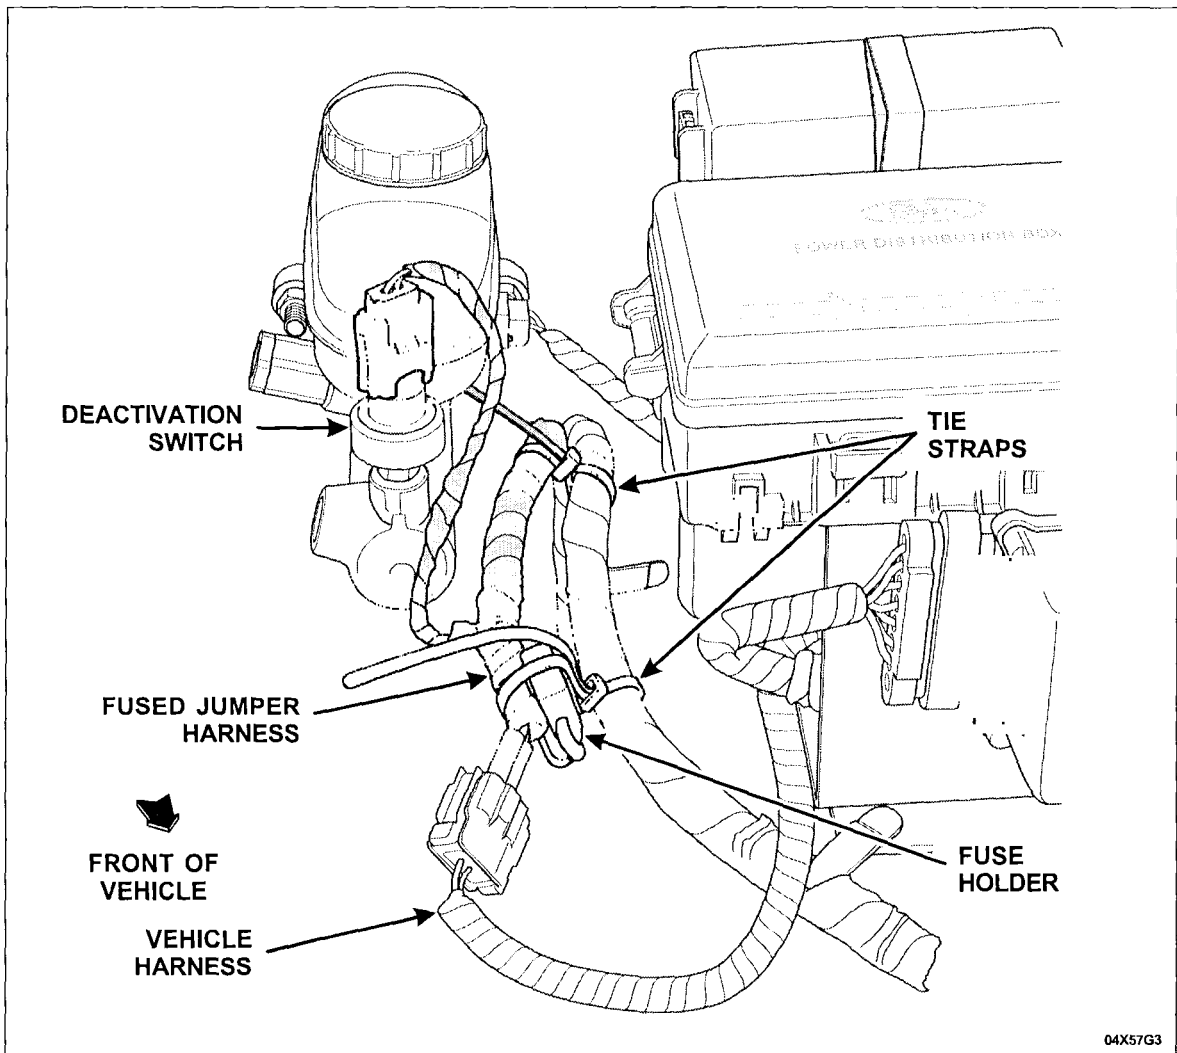

FIGURE 4
- c) Secure the jumper to the existing harness with tie straps, making sure the fuse holder is positioned vertically with the cap facing upwards. Wrap the tie straps underneath, then over the top of the existing harness and verify proper fuse holder orientation. See Figure 4.